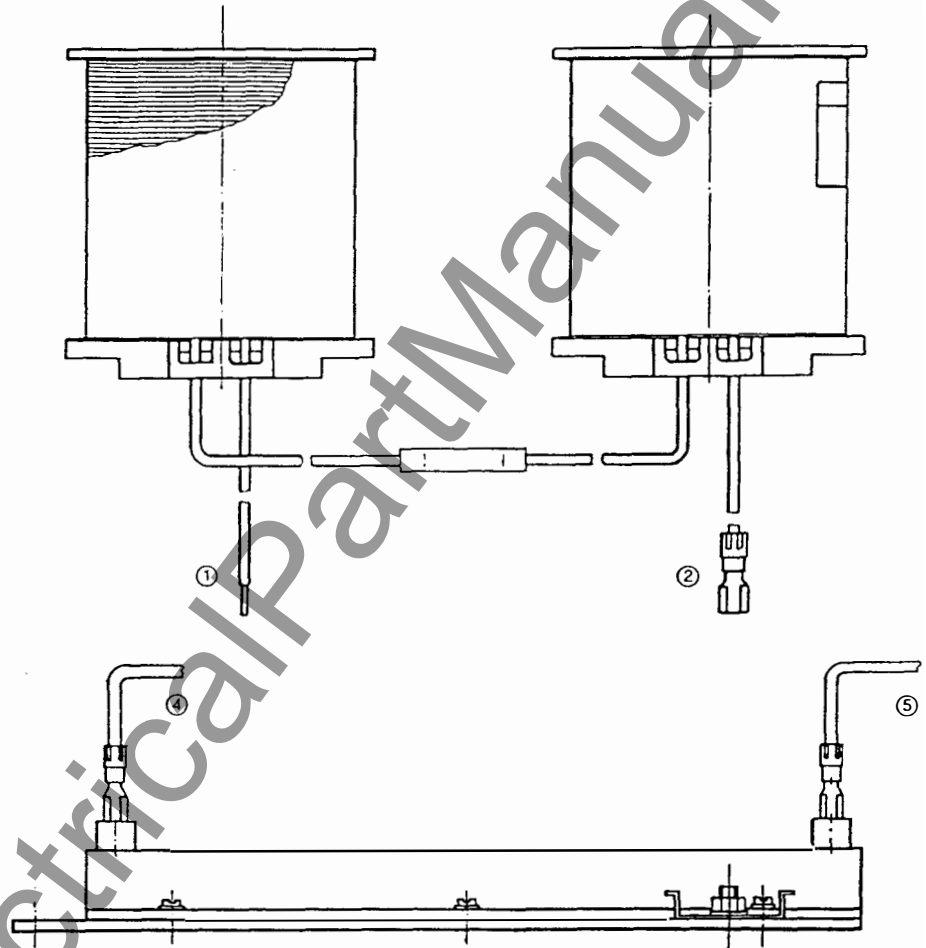
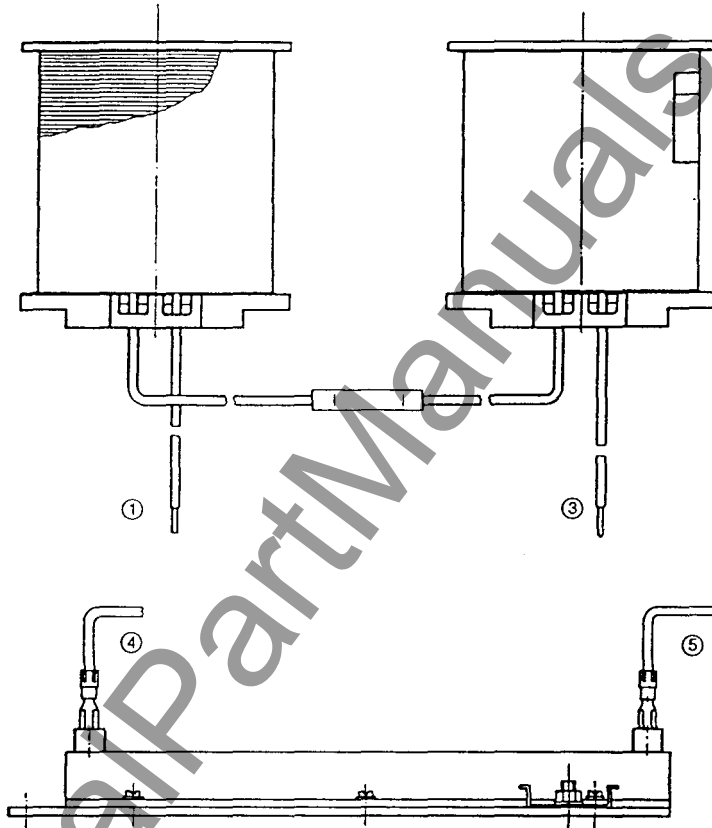

Fig.10
Fig. 11
– Zuleitungen des Spulenpaares 8.1 (neu) und des Sparwiderstandes 11.1 (neu) entsprechend Fig.10 für Wechselstrombetätigung bzw. Fig.11 für Gleichstrombetätigung anschließen
– Reconnect the leads to the new pair of magnet coils 8.1 and to the new economy resistor 11.1 as follows and as shown in Fig.10 for AC operation and Fig.11 for DC operation
- Turn the auxiliary switch 10 (fig. 10) so that it engages in the mounting bracket (i.e. push rod of the auxiliary switch must mate with the guide) and secure in position